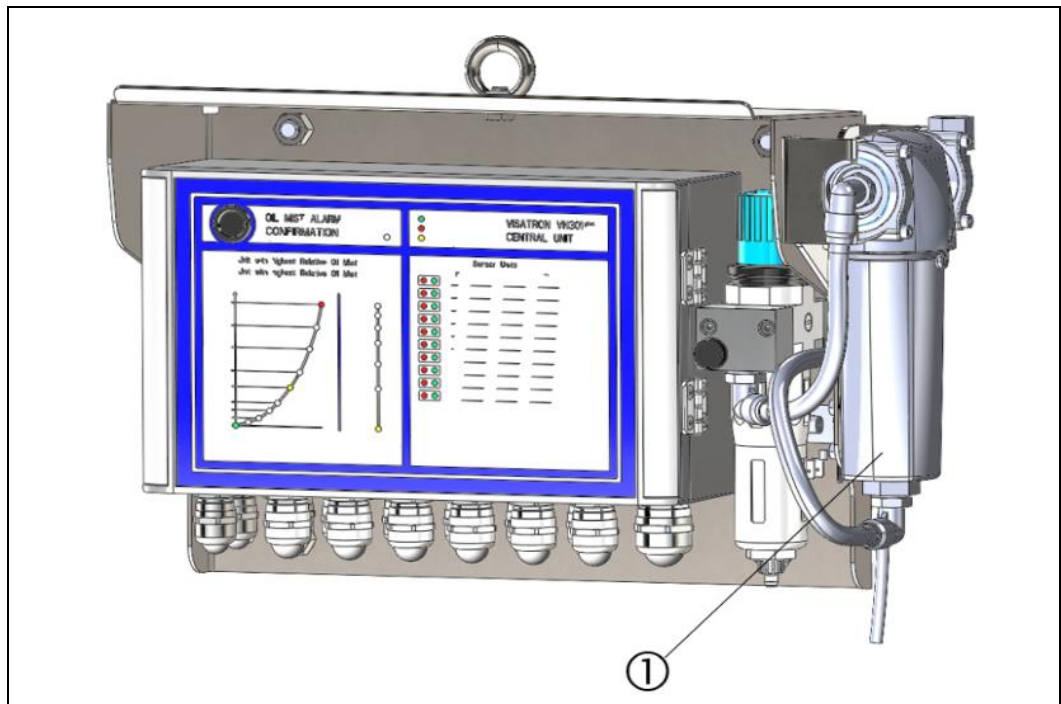

Fig.: 19 : VN301plus central unit, version with water separator
- Water separator function (see Figure 19)